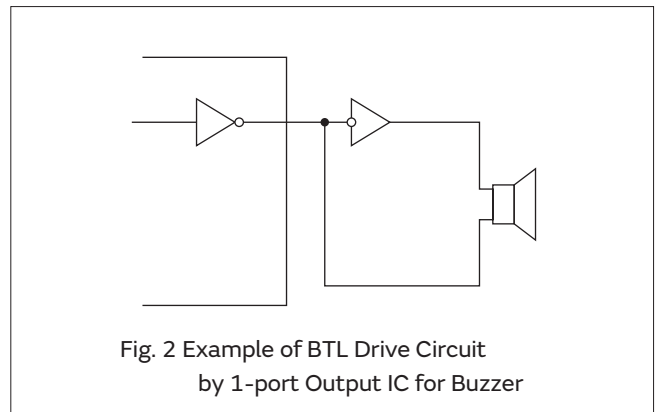

Fig. 2 Example of BTL Drive Circuit by 1-port Output IC for Buzzer
- (2) In a case that is driven by IC directly like as Fig. 2, input voltage of Piezoelectric sound components should be twice as high because of the BTL (Bridge Tied Load) drive circuit, which includes an inverter.